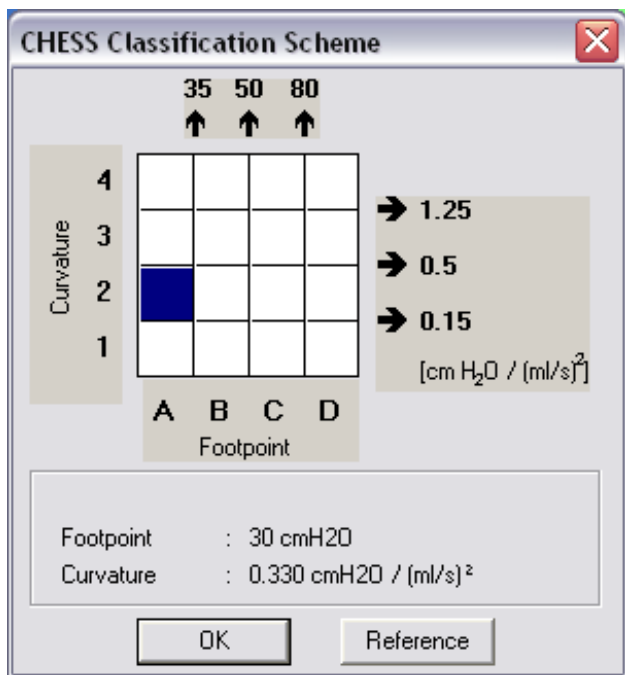

Figure 54: CHES Classification Scheme Window
4. Select **Info > X-Y Plot > CHES**. The CHES Classification Scheme window will appear (Figure 54).